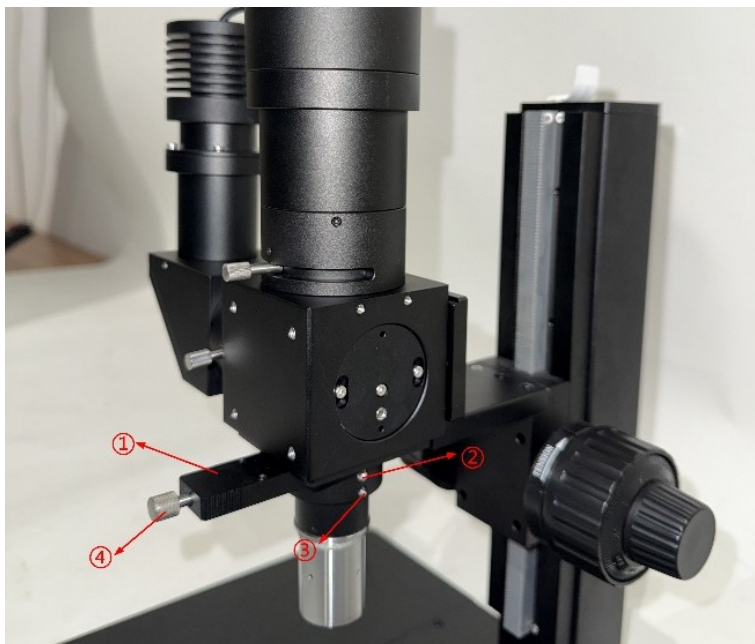

Figure 3 Schematic diagram of DIC prism adjustment instructions
As shown in Figure 3, ①DIC prism box; ②DIC prism box locking screw (Allen wrench size is 2 mm); ③ Objective adapter ring locking screw (Allen wrench size is 1.5 mm); ④DIC prism knob, used to adjust the prism move.